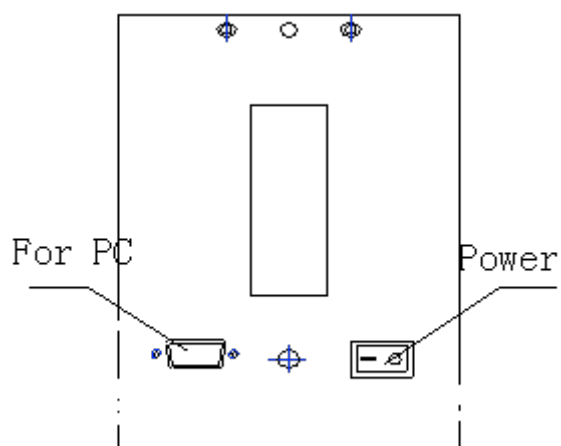

Figure 3
7. Connect the power supply and printer shown as Figure 3.
Note: the “PC interface” in the figure 3 is not used at present.